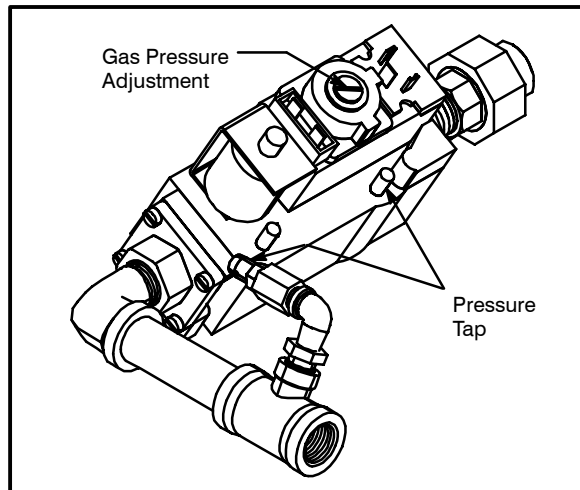

Figure 18
7. Adjust gas pressure if necessary, See Figure 18.